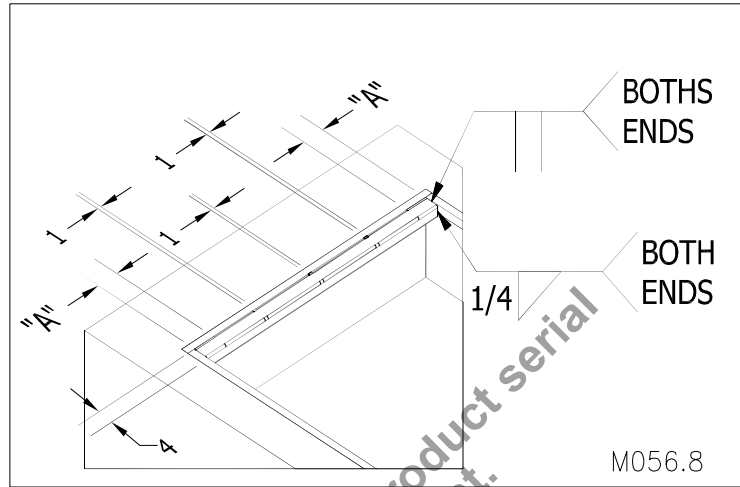

Figure 26: Welding the 4 X 3 Rectangular Tubing to the Curb Angles
3. Weld the ends of the rectangular tubing to the side curb angle (see "Figure 26: Welding the 4 X 3 Rectangular Tubing to the Curb Angles" on page 25. Add vertical welds